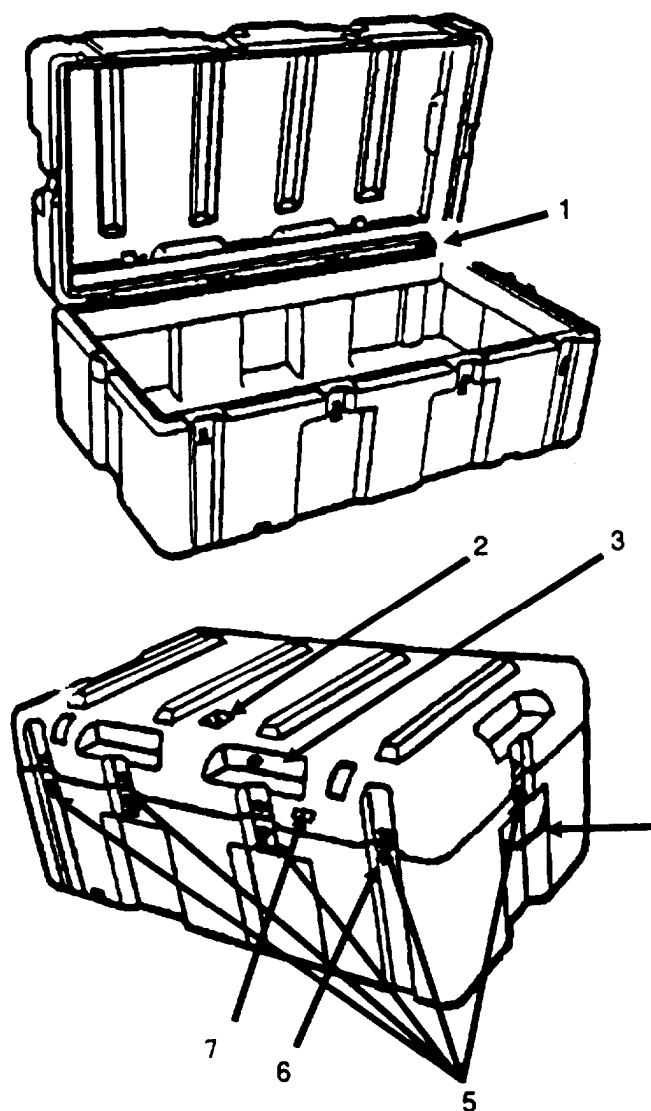

Figure 1-1. AMSS Rigid Container
1.10 Description of Major Components. The survival equipment will be placed in an equipment bag. The bag will have backpack straps and handles sewn to the bag. The filled bag will be placed in the hard outer container(s). The TOW tube equipment bags (2) will be connected together by a snap link at the handles. As the first equipment bag is being pulled out, the second bag will be pulled to the front and out in a continuous motion. The OH-58D and the AH-64 aircraft can use the soft-pack module. The soft-pack module consists of the equipment bag(s) and mandatory items without the rigid container.
- a. The containers for the AMSS, other than the converted TOW tube and the soft pack modules, are a high impact-molded plastic container (Figure 1-1). Each consists of a lid and a container hinged together on the back, an identity plate, a breather valve, transport handles, over-center latches, an anti-pilferage seal, and a chemical contamination detector (used only during wartime conditions and in war zone areas).
- b. The container's components description is as follows. (See Figure 1-1.)
- (1) HINGES - connect the top and bottom of the container from the back.
- (2) IDENTITY PLATE - lists the National Stock Number (NSN) of the container, the serial number, and the manufacturer.